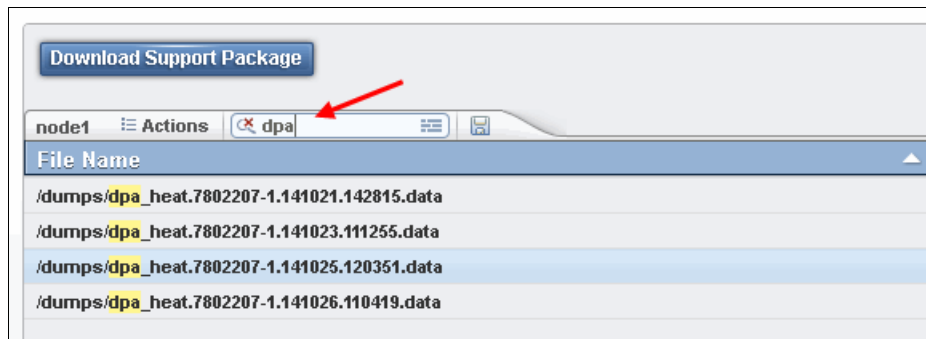

Figure 9-28 Filter your search
- You can also use the search field on the right to filter your search, as shown in Figure 9-28.